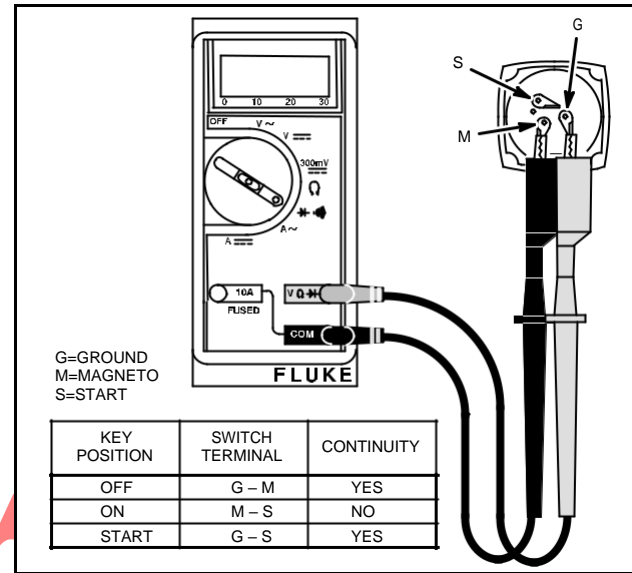

Fig. 652 – TESTING KEY SWITCH
2. Test key switch as shown in Fig. 652. Replace switch if test results differ from chart.